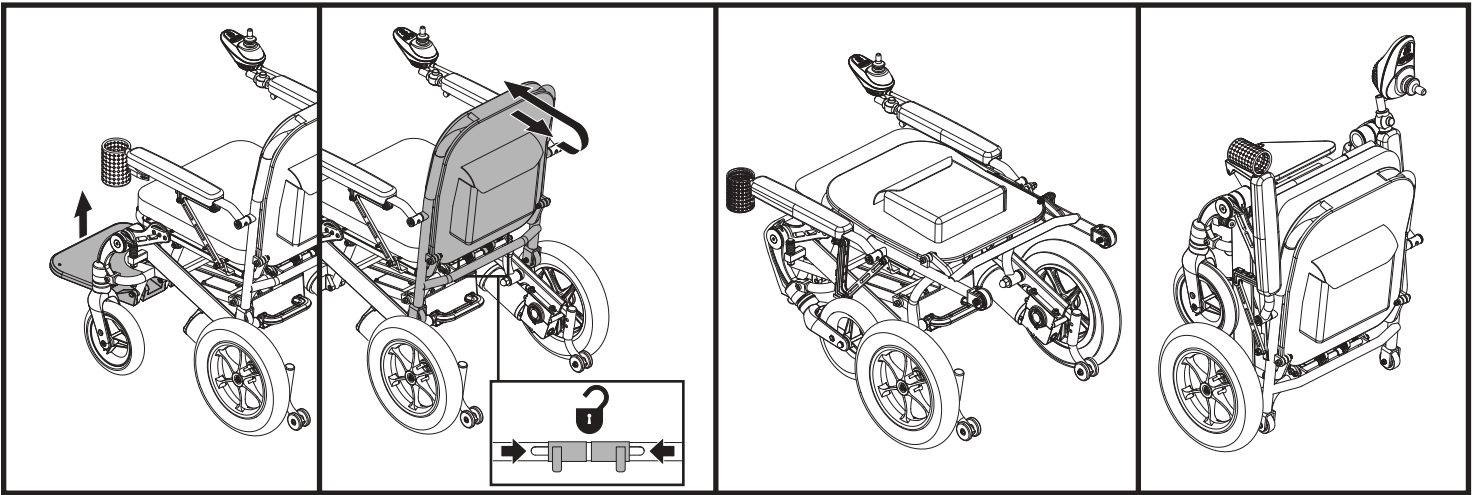

Figure 6. Folding the Jazzy Passport
3. Place one hand on top of the seatback and pull it toward you while squeezing the pins of the locking mechanism together. **See figure 6.**